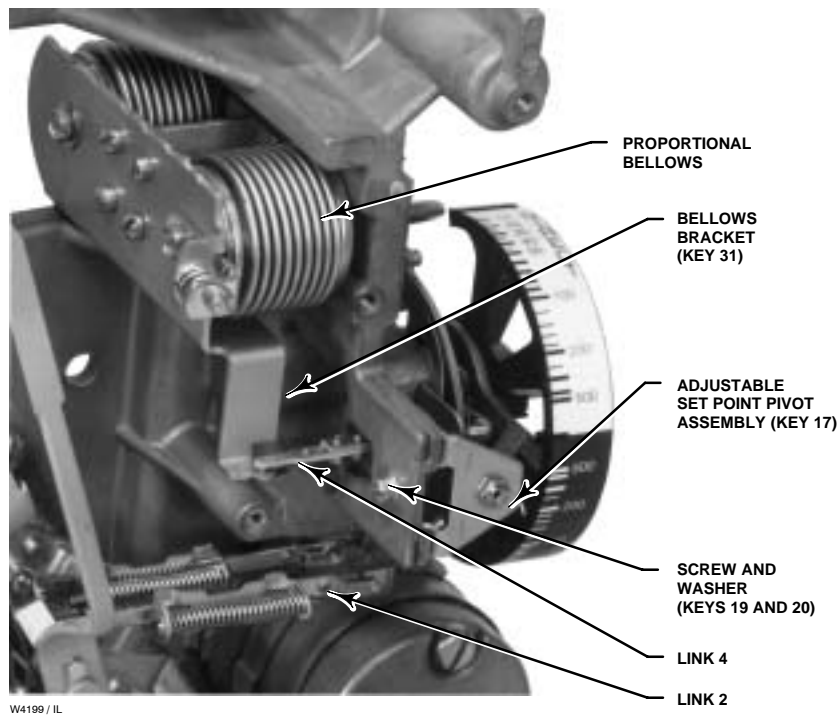

Figure 6-7. Bellows Assembly and Proportional Band Adjustment
8. While holding the proportional band adjustment knob, remove the screw and washer (keys 19 and 20) that hold the relay nozzle tubing assembly (key 18) to the frame.
10. Disconnect link 2 from the flapper assembly (key 11). Refer to figure 6-7 for the link location.
11. Disconnect link 4 from the bellows bracket (key 31). Refer to figure 6-7 for the link location.